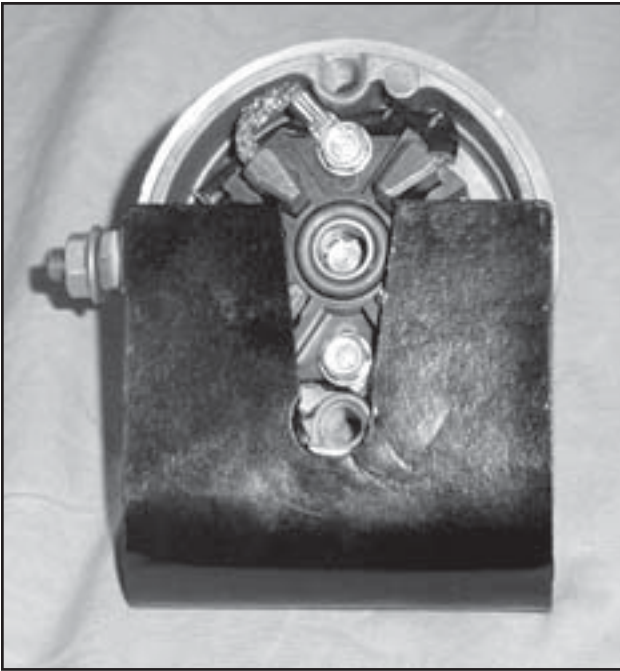

FIGURE 3-64
8. Properly position the gasket and reinstall the commutator end cap as shown in Figures 3-64 and 3-65.